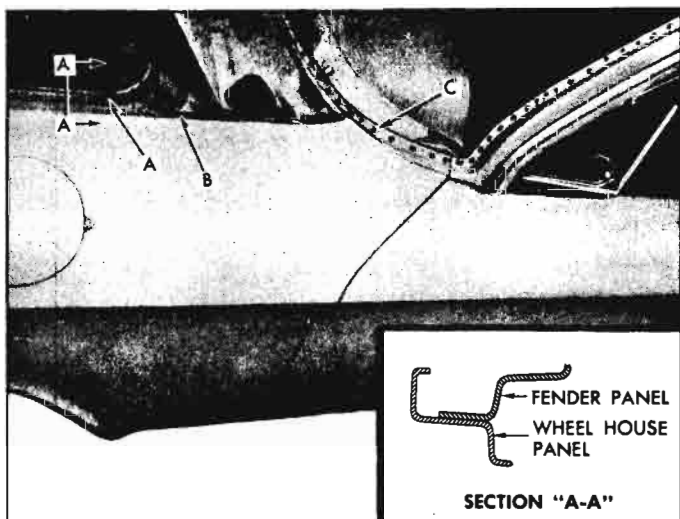

Fig. 10-10—Fender Panel Attachment at Windshield, Cowl and Wheelhouse
6. If damage to fender extends into windshield opening, it will be necessary to remove windshield glass assembly and remove fender panel at windshield pinchweld. If fender panel is undamaged at this area, remove old panel by cutting at area indicated by broken line in Figure 10-10. Sectioning new fender at this location will save time and labor.